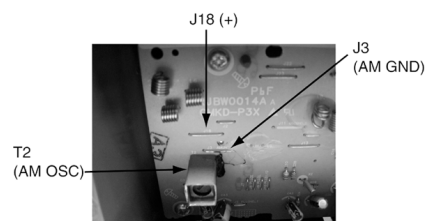

Fig. 9-2
1. Connect the digital voltmeter across J18(+) and J3(-). (Fig. 9-2)